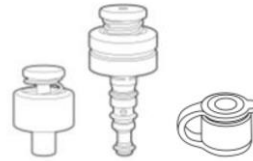

Figure 3
- If using the 3-piece or 4-piece valve kit (Figure 3 & 4), attach the biopsy valve.